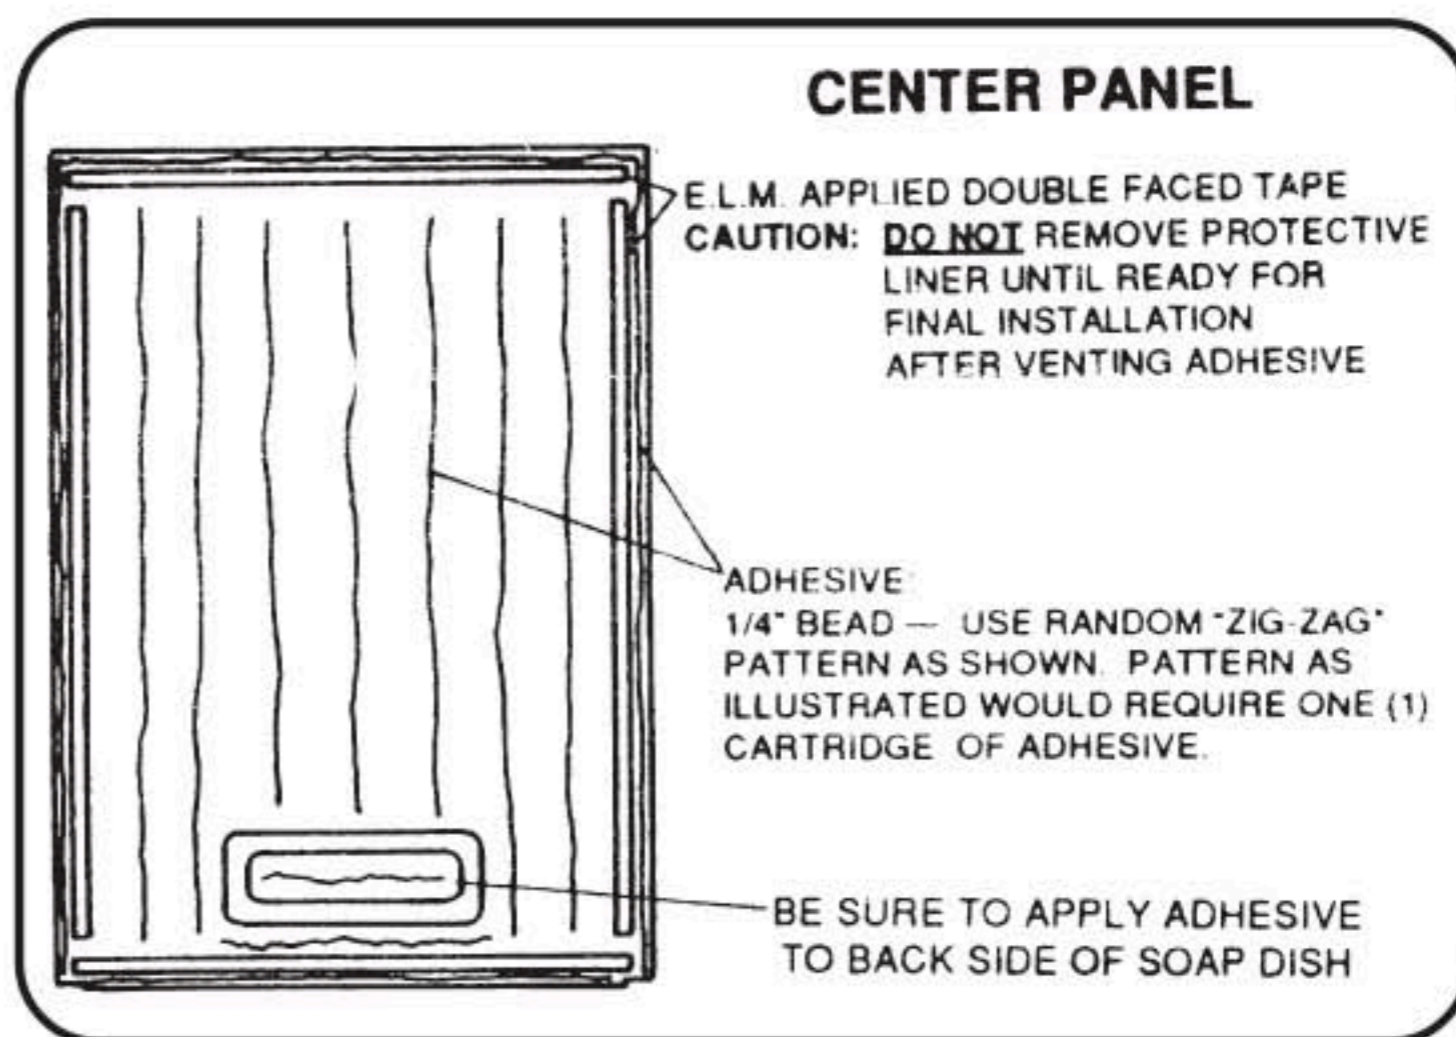

FIG. 5
**Adhesive Pattern:** Apply a 1/4" dia. bead of adhesive to the back side of the **Center Panel**. Use a random "Zig Zag" pattern. Do not apply adhesive to outer edges. Follow ADHESIVE NOTE / VENTING METHOD. You may also use the "Roofing Nails" along the top edge as described in step 4. Clean any excess adhesive and grease pencil line immediately with mineral spirits, then wash with a soap and water solution. (FIG. 5)